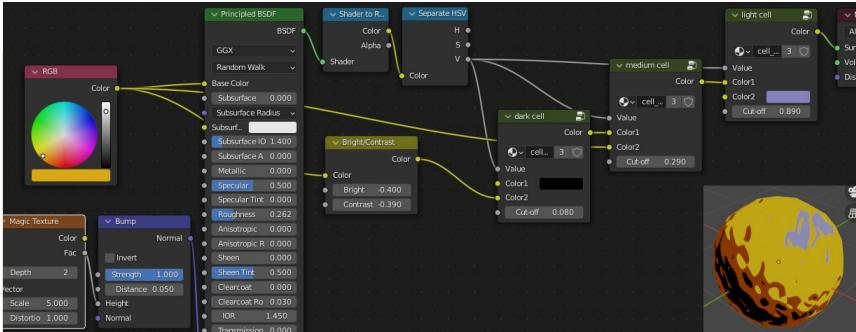

Figure 13-3 Using multiple node groups to produce a cell shader.
As mentioned above, groups are a way to organize nodes but, by doing so, they help you to think through the logic of the material as you build it. For instance, in the cell shader you are making now, it would make sense to have a node group that took inputs of: First the threshold value for the edge of this boundary between cells. Second the color to use where the material is darker than the boundary. Third the color to use if lighter than the boundary. These nodes could then be stacked one after the other, each taking the result of the previous node for the darker color and introducing a lighter color for the other. In this way each group is equivalent to a stop of the color ramp node, the arrangement is shown in of Figure 13-3 where the three node groups are arranged on the right side of the image.
6. To finish editing the group node click on the button on right of the header with an icon of an upward pointing arrow. To return to editing the contents of a group you click on the connected nodes icon in the top right corner of the node, which you can just make out in Figure 13-3. When you select on a node that is
a group, if you open the Properties section of the Node tab in the Sidebar, you can change the name to something more meaningful, in this case call it `cell_shader_stop`. In the Node section above you can also change the unique name for each instance of the group, as well as the label to be displayed at the top of the node. Using meaningful names will make your life much easier in the long run. Duplicate the prototype node twice using **SHIFT-D** and connect them up as in Figure 13-3